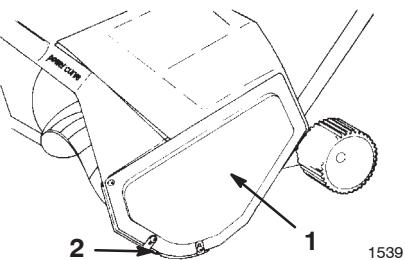
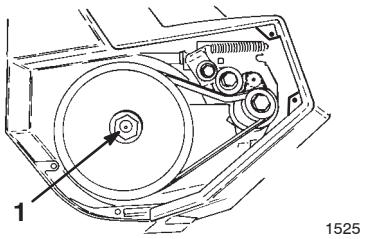

Figure 15
Figure 16
Note: If you cannot remove the rotor shaft by holding the rotor, remove the left side cover and the skid (Fig. 15). Hold the hex nut with a 7/8-inch wrench while unscrewing the rotor shaft (Fig. 16).
1. Remove the 3 screws that secure the left side plate to the snowblower frame (Fig. 15). Remove the side plate and the skid.
- Remove the screws that secure the left side plate and the skid to the snowblower frame (Fig. 15), and remove the side plate and the skid.